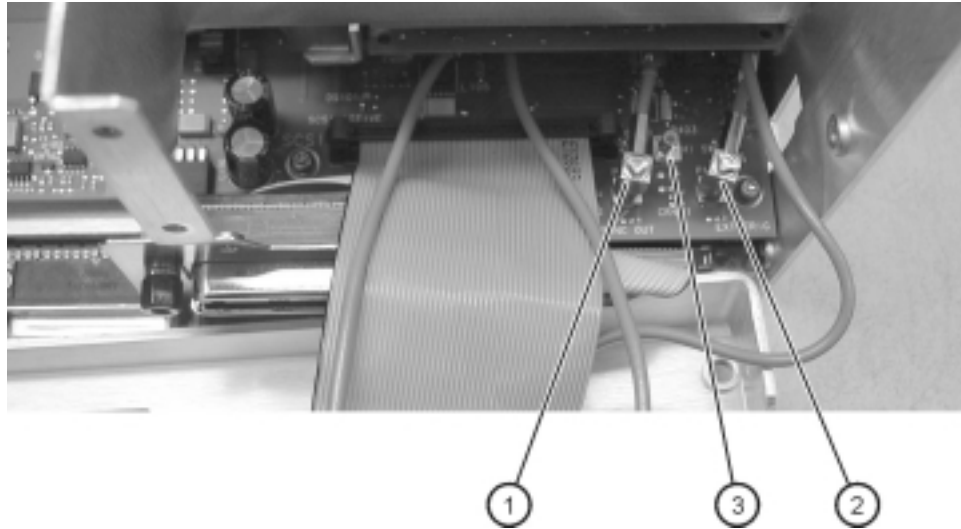

Figure 3-34. Disconnecting the hard drive ribbon cable from the mezzanine board
- 11 Disconnect the hard drive ribbon connector from the mezzanine board. See Figure 3-34 below.